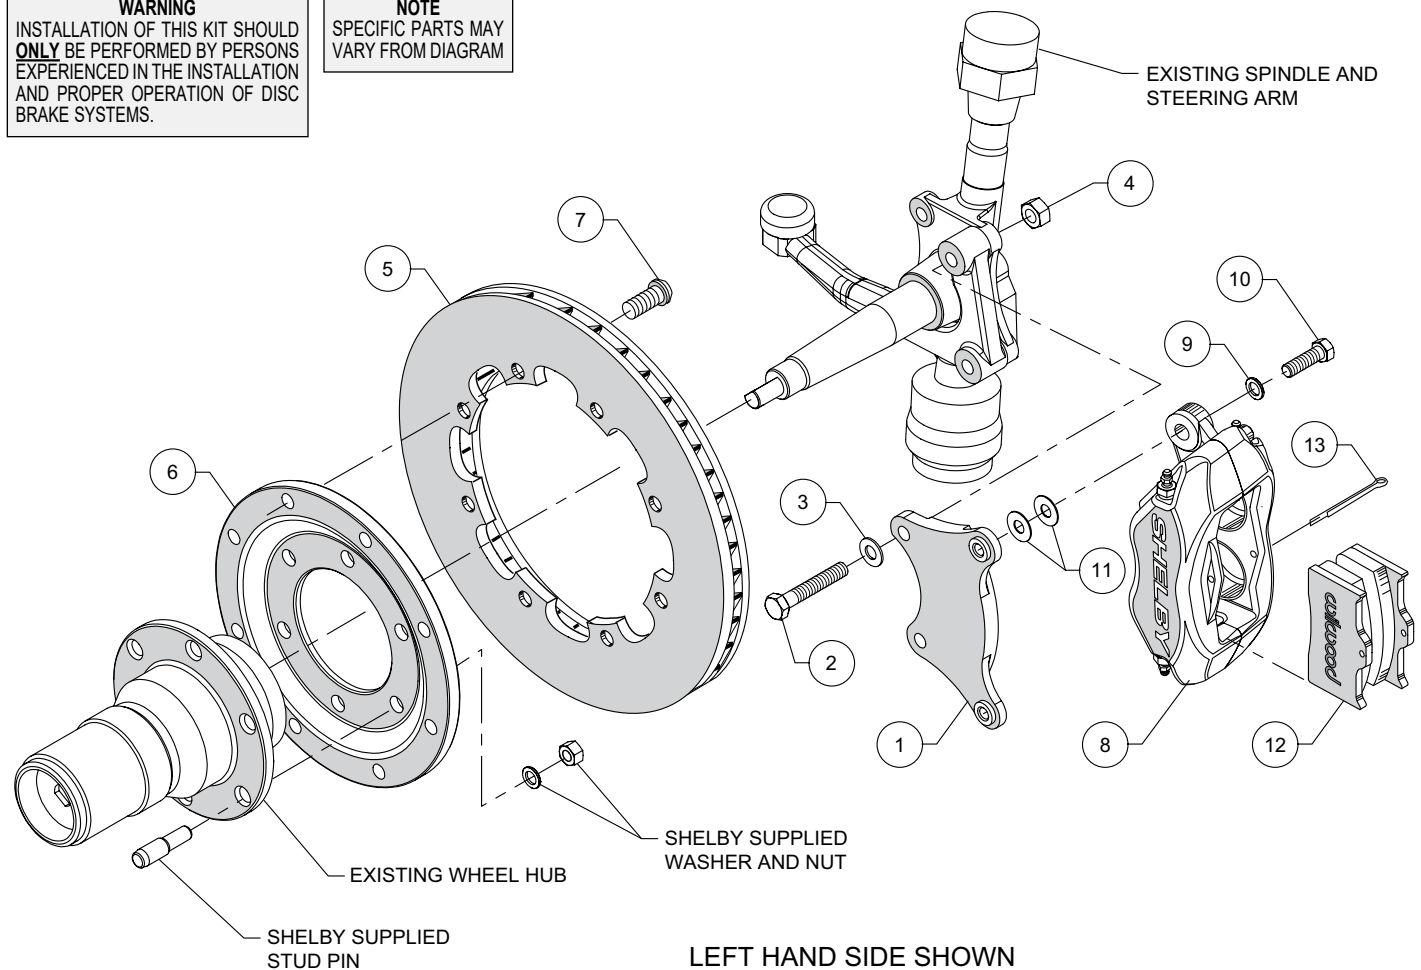
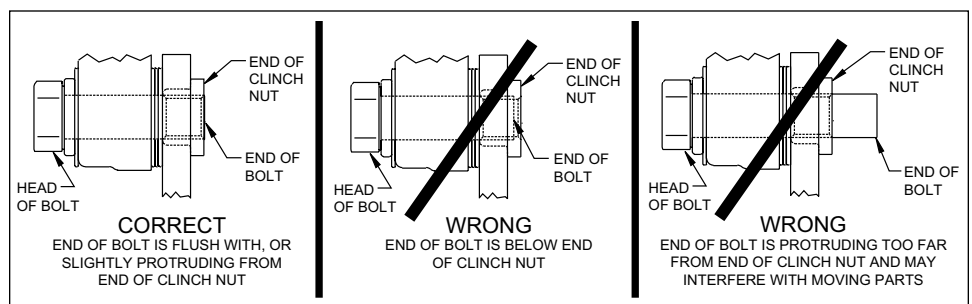

Figure 1. Typical Installation Configuration
Figure 4. Clinch Nut Engagement Diagram
Assembly Instructions (numbers in parenthesis refer to the parts list and Figure 1 on the preceding pages): **CAUTION: All mounting bolts must fully engage clinch nuts.** Be sure to check that all bolts are either flush or protruding through flanged side of clinch nut after shimming, Figure 4.
- Orient the caliper mount bracket (1) as shown in Figure 1 and install using bolts (2), washers (3) and nuts (4). Ensure that the flanged heads of the clinch nuts in the bracket are facing outboard, Figure 1. Temporarily tighten the mounting bolts. **NOTE: The bracket must fit squarely against the mount bosses on the upright.** Inspect for interference from casting irregularities, machining ridges, burrs, etc. Once proper fitment is confirmed, torque nuts to 30 ft-lb.
- Orient the rotor (5) and the rotor adapter (6) as shown in Figure 1 and Photo 1. Attach the rotor to the adapter using bolts (7). Using an alternating sequence, apply red *Loctite*® 271 to the threads, and torque to 25 ft-lb.
- Mount the adapter/rotor assembly (5/6) to the hub (customer supplied) using stud pin, washer and nut (all customer supplied), as shown in Figure 1. Using an alternating sequence, apply red *Loctite*® 271 to the threads, and torque nuts to manufacturer's specifications.
- **NOTE: Please reference the caution statement at the beginning of the assembly instructions.** Mount the caliper (8) onto the caliper mounting bracket (1) using bolts (10) and washers (9), as shown in Figure 1. Initially place two .035" thick shims (11) on each bolt between the caliper and the bracket, Photo 2. Temporarily tighten the mounting bolts and view the rotor (5) through the top opening of the caliper. The rotor should be centered in the caliper, Photo 3. If not, adjust by adding or subtracting shims between the bracket and the caliper. Always use the same amount of shims on each of the two mounting bolts. **NOTE: The end of each bolt must be flush with or slightly protruding from the head of the clinch nut, as shown in Figure 4.** If necessary place spare shims between washer (9) and caliper mounting ear to achieve the proper clinch nut engagement. Once the caliper alignment and clinch nut engagement are correct, remove the bolts one at a time, apply red *Loctite*® 271 to bolt threads, and torque to 40 ft-lb.
- Install the disc brake pads (12) into the caliper, with the friction material facing the rotor (5), and secure in place using cotter pin (13), Photo 4.